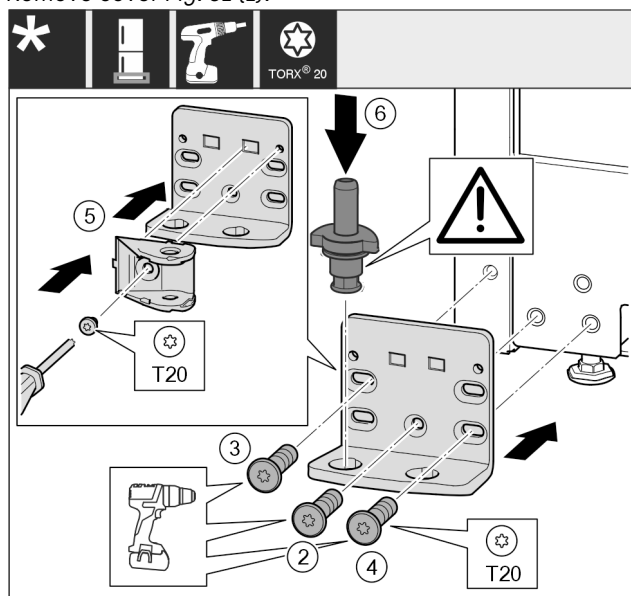

Fig. 32
- ▶ Place the swap bearing block on the other side and use a screwdriver to screw it on. Start with the screw *Fig. 32 (2)* at the bottom in the middle.
- ▶ Tighten screw *Fig. 32 (3)* and screw *Fig. 32 (4)*.
- ▶ Turn the closing damper connection *Fig. 32 (5)* by 180°.
- ▶ Insert the bearing bolt *Fig. 32 (6)* completely. Ensure that the latching cam is pointing towards the rear.